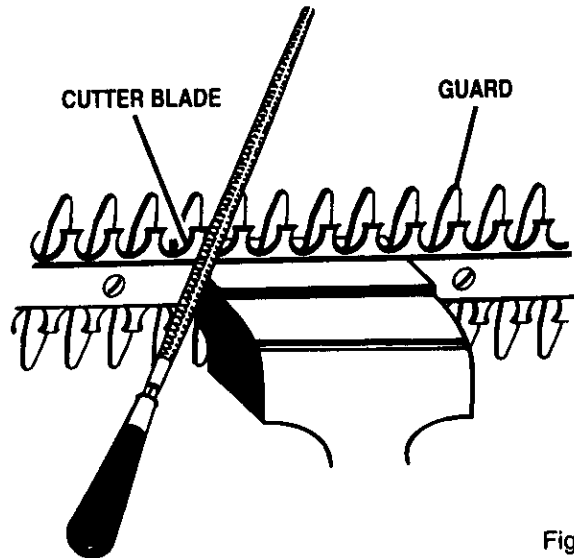

Fig. 10
See Figure 10.
- Allow your hedge trimmer to come to a stop with the cutter blade and guard positioned as shown in Figure 10. This will allow clearance for the file between cutter teeth and guard teeth.